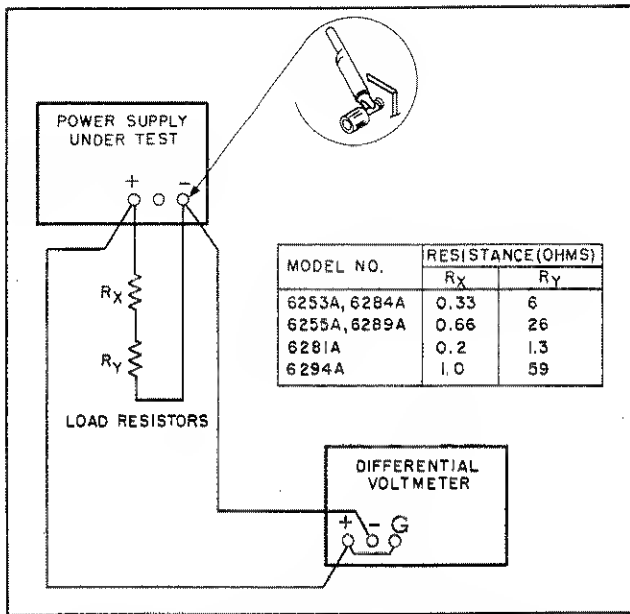

Figure 5-5. Load Regulation, Constant Voltage Test Setup
a. Connect test setup as shown in Figure 5-5.
- Connect test setup shown in Figure 5-5.